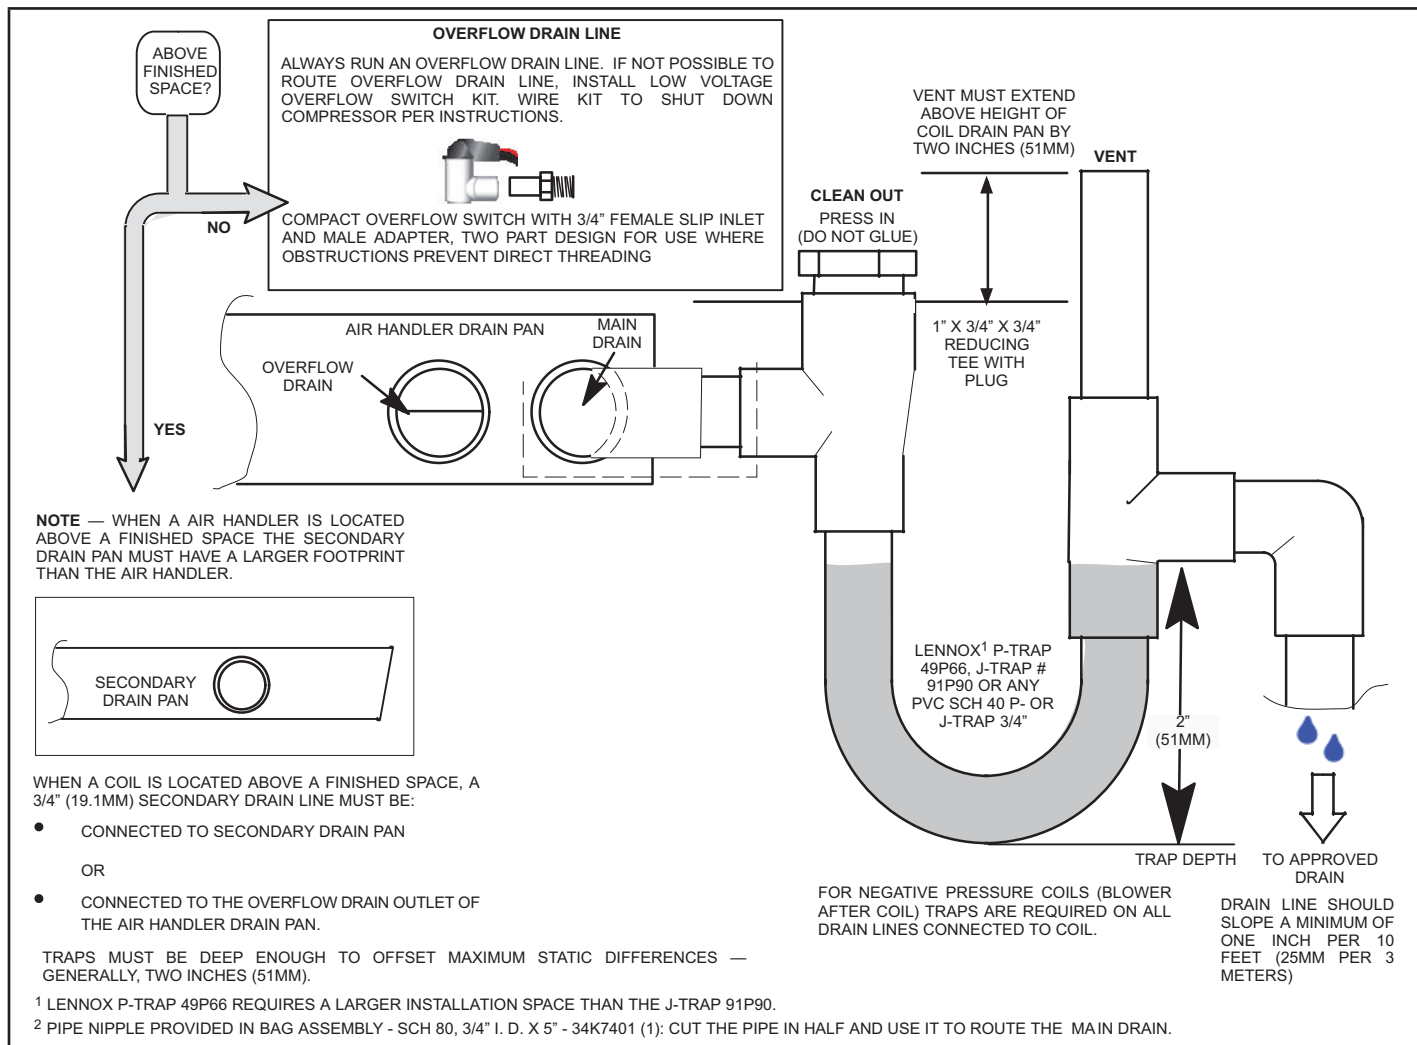

FIGURE 12. Typical Main and Overflow Drain
- 6 - Install a 2" trap in the main (primary) drain lines as close to the unit as practical (see figure 12). Make sure the top of the trap is below the connection to the drain pan to allow complete drainage of the pan.